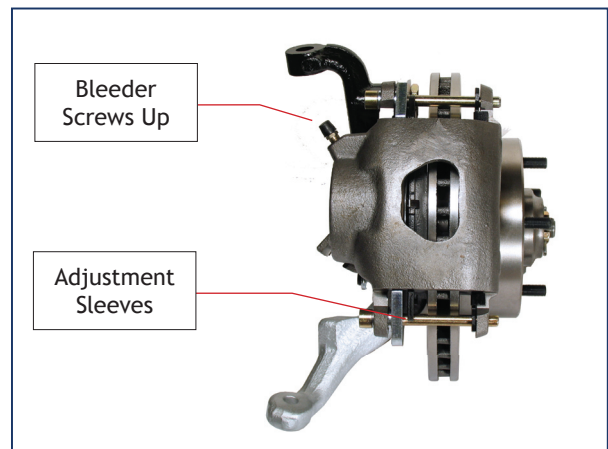

FIGURE. 8
13. Mount the caliper into the spindle cradle. You may need to move the two silver bolt sleeves in the calipers, to avoid contacting the spindle’s housing. (Figure 8)